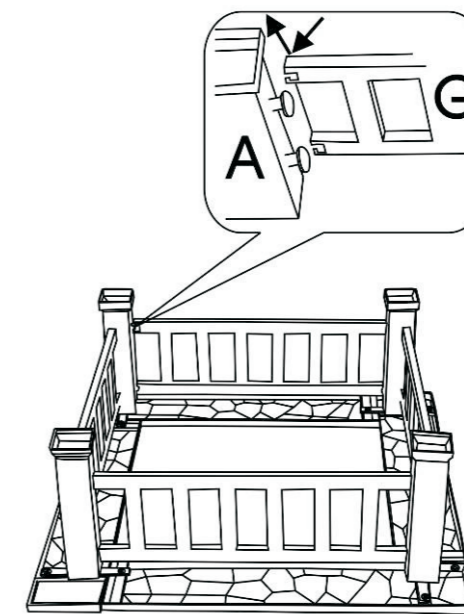

FIG 3
Step 3 Mount Ladder Frames (G) to the studs pre-installed on the Corner Posts (A). (View Fig 3)